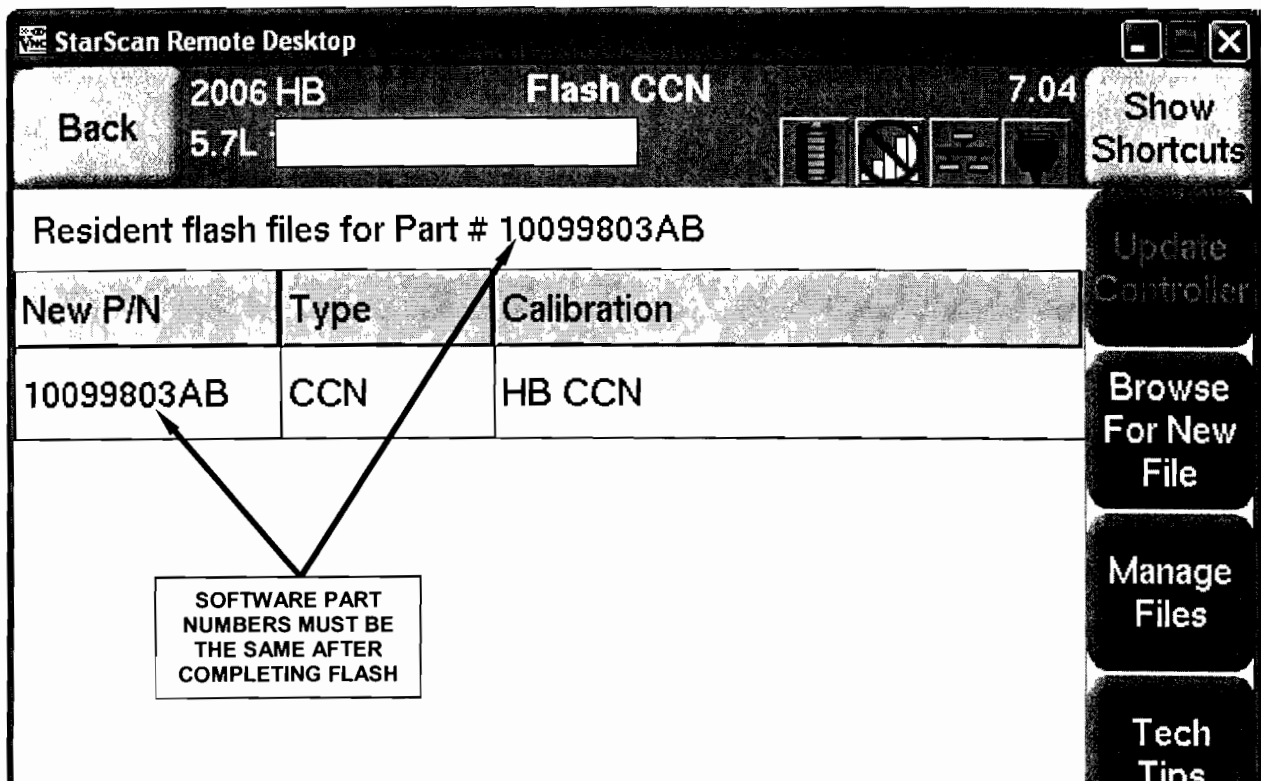

Figure 9 - StarSCAN Sample Shown After Flash
10. Verify the part number (resident flash file) at the top of the screen has updated to the new part number (Figure 9).